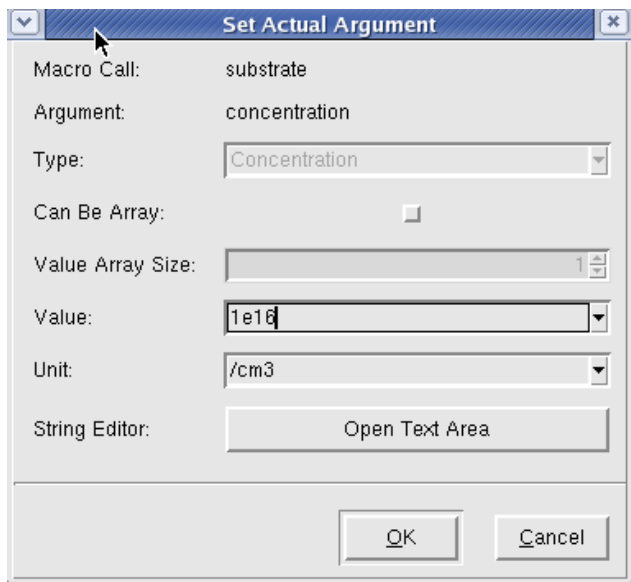

Figure 37: Setting the substrate concentration.
8. Double click on concentration and set it to 1e16 with a unit of /cm3 (Figure 37).